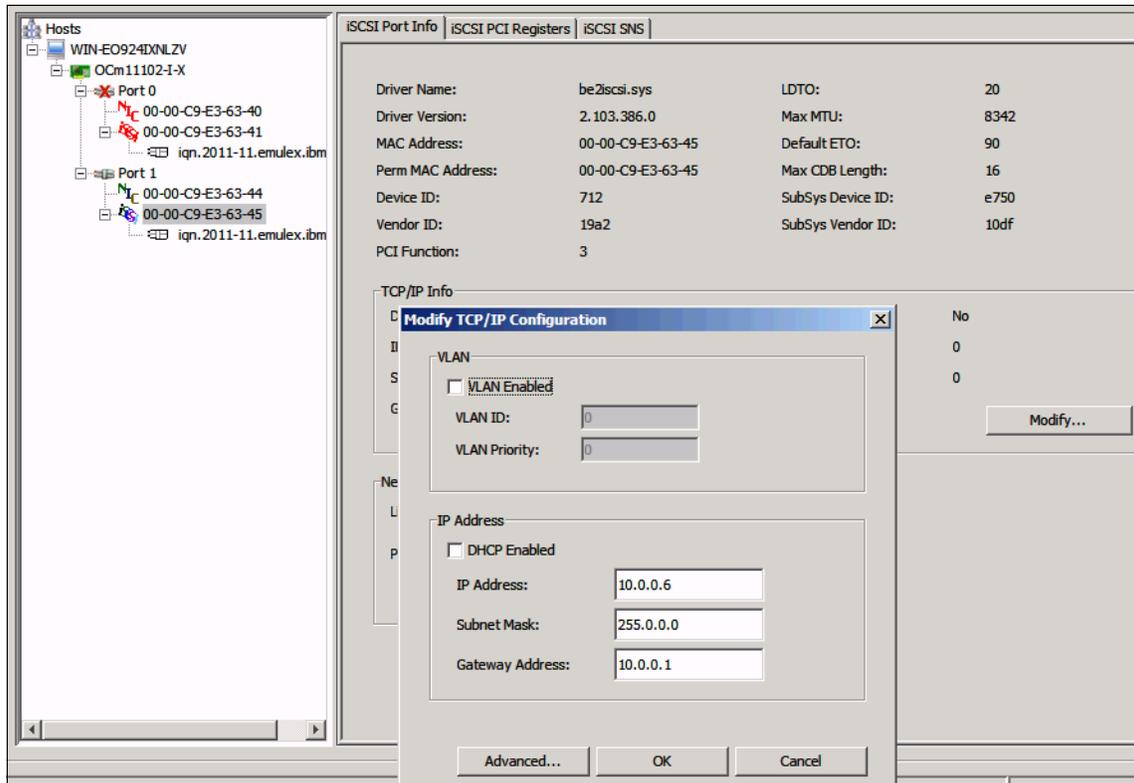

Figure 10-109 Modify TCP/IP Configuration window
5. Back in the OneCommand Manager window (Figure 10-109):
- d. In the Modify TCP/IP Configuration window (inset in Figure 10-109), enter the VLAN and IP address configuration. Click **OK**.